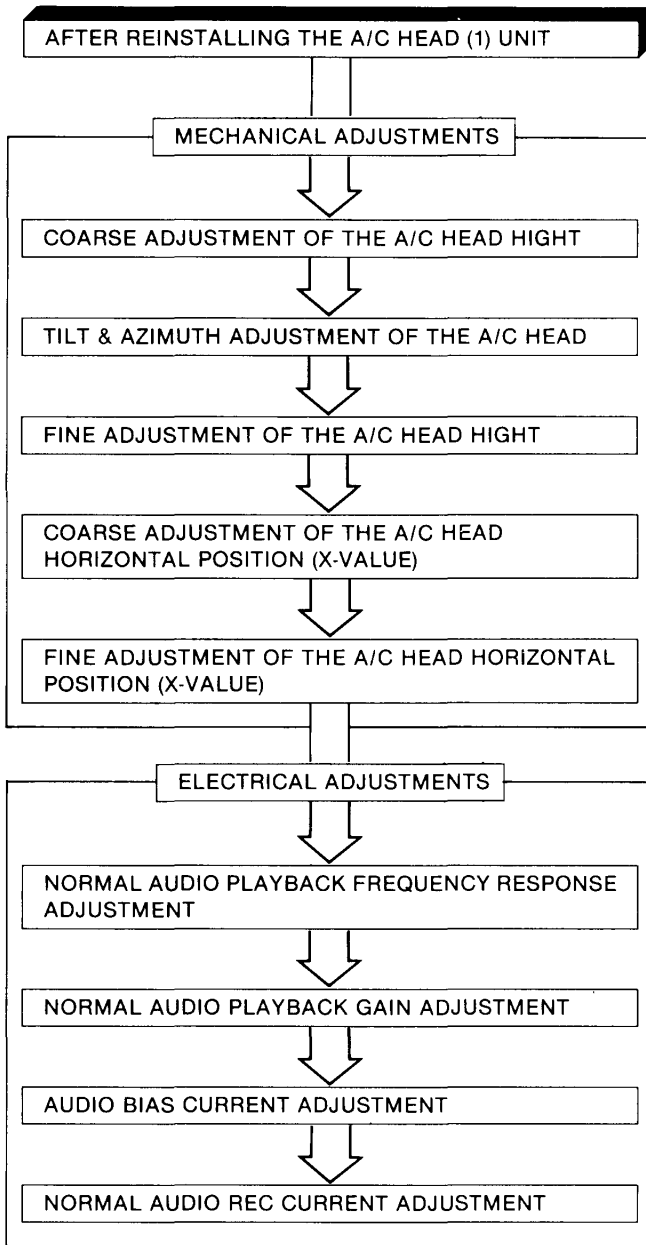

Figure M12
Figure M12 shows the order of steps for adjusting the mechanical and electrical. These adjustments should be performed after completion of reinstalling the A/C Head (1) Unit.